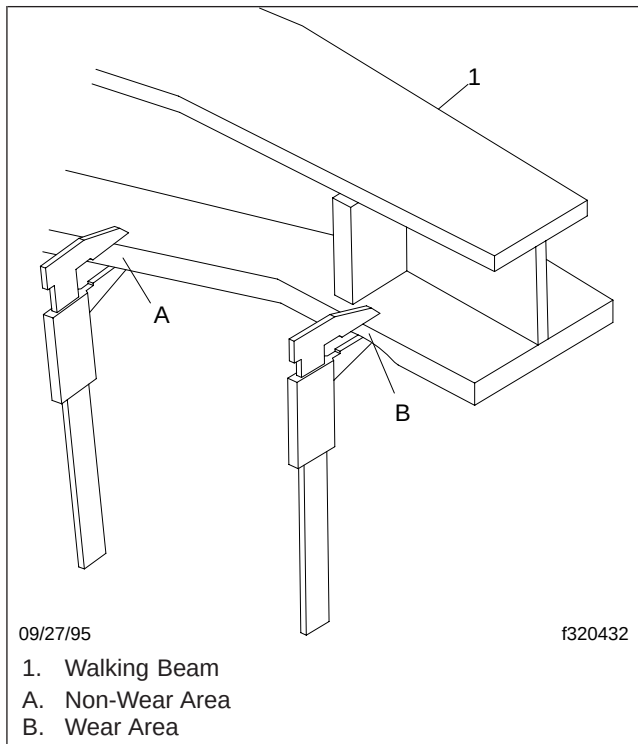

Fig. 8, Walking Beam End Wear Thickness
4. Manipulate the walking beam so that a micrometer, vernier, or dial caliper can be used to determine the wear area thickness on the bottom face. See **Fig. 8**. Measurements should be taken a minimum of 1/2 inch (13 mm) from the beam flange edges to eliminate any edge wear that may have occurred. Subtract the wear area thickness (**Fig. 8**, Ref. B), from the non-wear area thickness (**Fig. 8**, Ref. A), to determine the amount of wear.